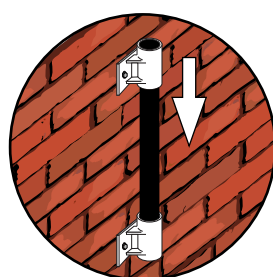

Fig 3.
3. Place the ground socket into the brackets, ensuring it sits in the bottom of the bottom bracket properly and level with the TOP EDGE of the top bracket (Fig 3).